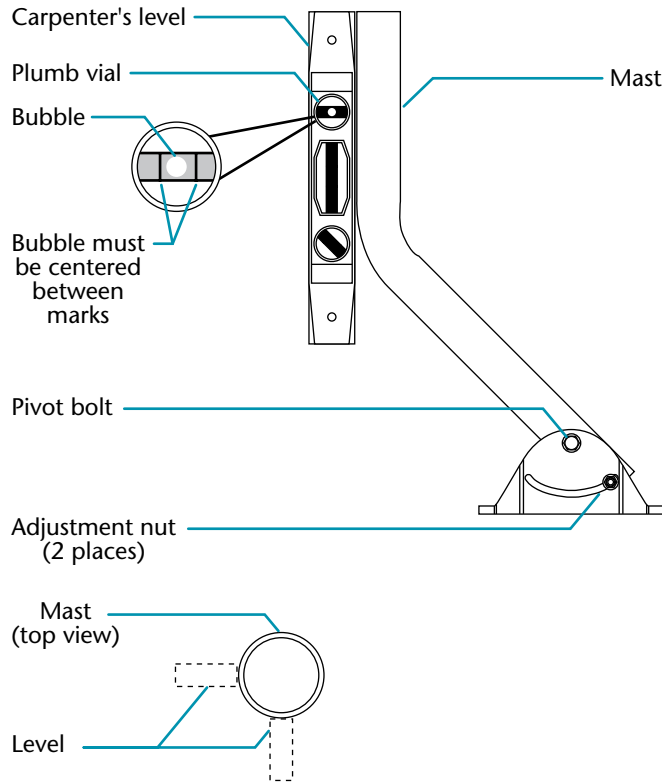

Figure 4-44. Verifying the mast is plumb
- Using a carpenter's level, plumb the antenna mast in at least two different locations on the side of the mast, as shown in figure 4-44. These two measurements should be at right angles to each other.
If the mast is plumb (aligned vertically with the bubble level), go to step 5. Otherwise, loosen the alignment nuts (see figure 4-44).